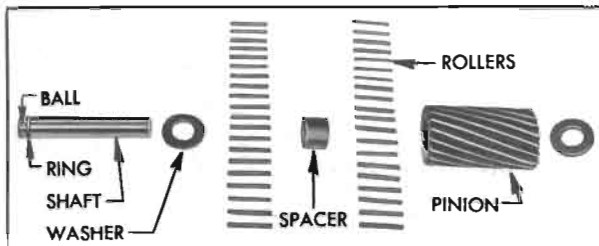

Figure 5-84—Low Planet Pinion, Disassembled
7. Remove the thrust washers and shafts from pinions, then remove the bearing rollers. Note that the reverse planet pinions have a single set of rollers and the low planet pinions have two sets of rollers separated by a spacer. See figure 5-84.
ring on shaft and the end of pinion. Each reverse planet pinion contains 24 rollers. Each low planet pinion contains 20 rollers at each end separated by a spacer. See figure 5-84. Place a thrust washer on upper end of each assembly to hold rollers in place.